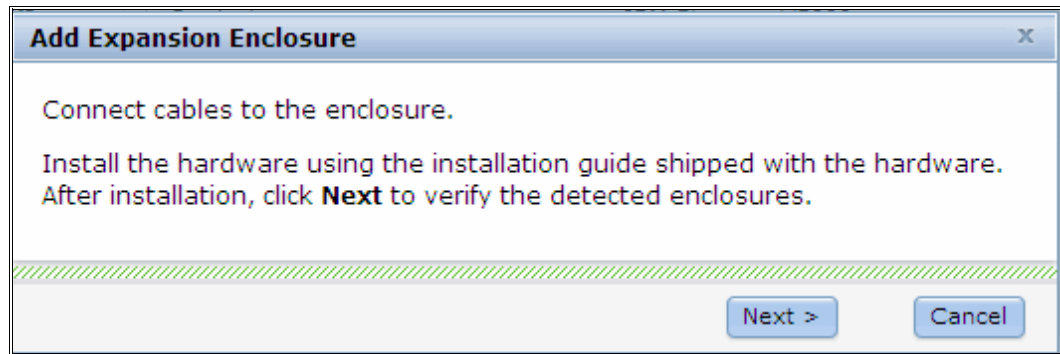

Figure 2-43 Expansion enclosure cable check
2. You are prompted to check and confirm cabling and power to the new expansion enclosure. Click **Next** to continue, as shown in Figure 2-43.